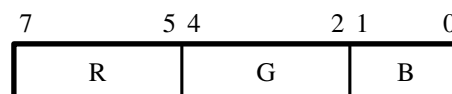

Figure 7. 8-bit RGB Color Space.
- 8-Bit RGB — This format uses 3 bits for red, and 3 bits for green and 2 bits for blue as shown in Figure 7. This mode is defined as 8 bits per symbol and one symbol per beat.